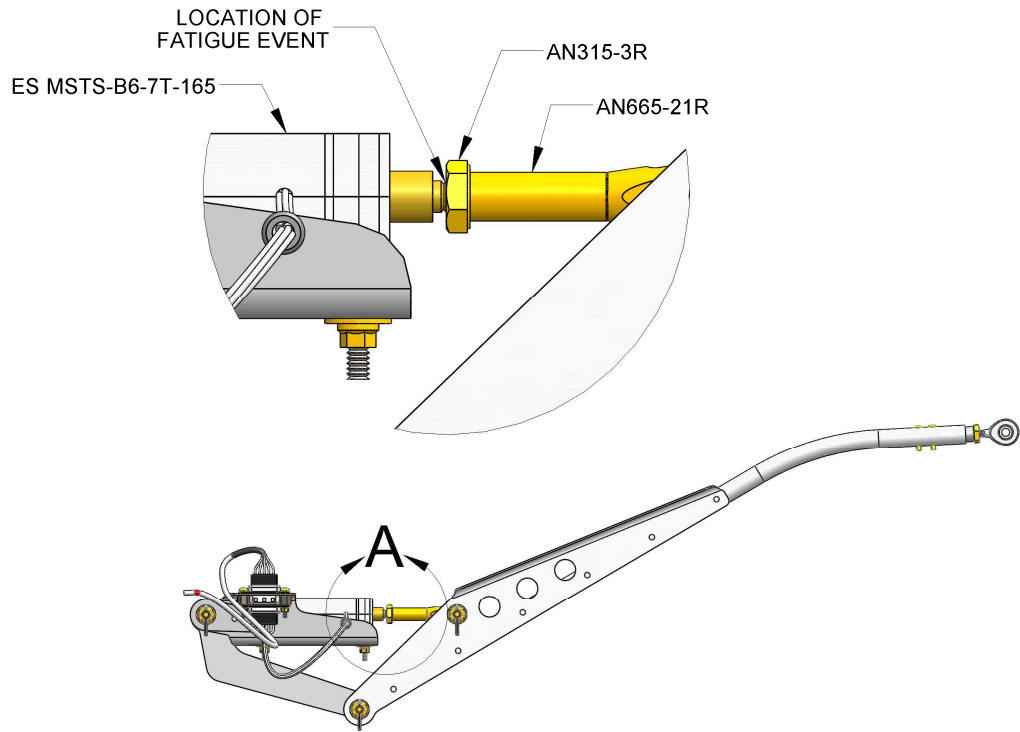

FIGURE 1: FATIGUE LOCATION
The described failure occurred in the threaded portion of the trim motor shaft, flush with the nut that tightens against the clevis. See Figure 1 below.
Step 2: Inspect the threaded portion of the trim motor shaft. Determine if the shaft is bent. See Figure 1 below and KAI Section 11 for the RV-12 or KAI Section 11iS/U for the RV-12iS. If the shaft is bent, remove and replace the trim motor, add the bushing and replace F-1287A servo tray with the F-1287A-1. If the trim motor has accumulated 1000 hours time in service, replace the trim motor and tray with part number ES MSTS-B6-7T-165 and F-1287A-1, add the bushing, and ensure installation is compliant with the remaining steps in this document below.
Step 2: Inspect the threaded portion of the trim motor shaft. Determine if the shaft is bent. See Figure 1 below and KAI Section 11 for the RV-12 or KAI Section 11iS/U for the RV-12iS. If the shaft is bent, remove, and replace the trim motor.